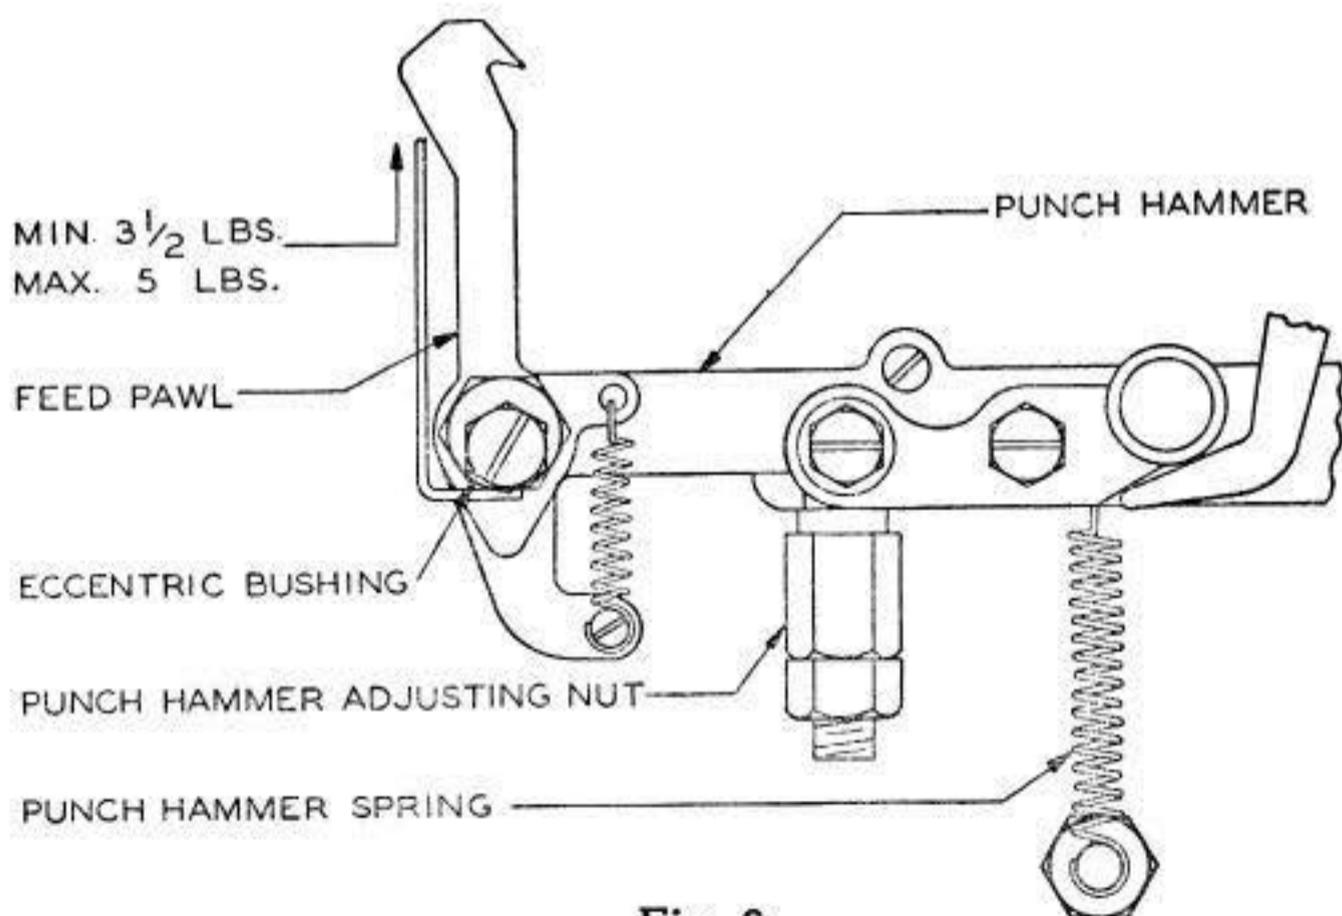

Fig. 9
(b) To adjust, back off the punch-hammer adjusting nut until the punches fail to perforate tape when **LTRS** combination is set up and the main shaft is rotated. Advance the adjusting nut slowly until all holes are just punched clean, and then advance the nut an additional 1/4 turn. For identification of parts see Fig. 9. **Fig. 9**
2.27 **Punch-Hammer Spring.** It should require a pull as indicated in Fig. 9 to start the punch hammer moving when the main-shaft clutch is disengaged and the lock bail is held away from the transfer levers. **Fig. 9**